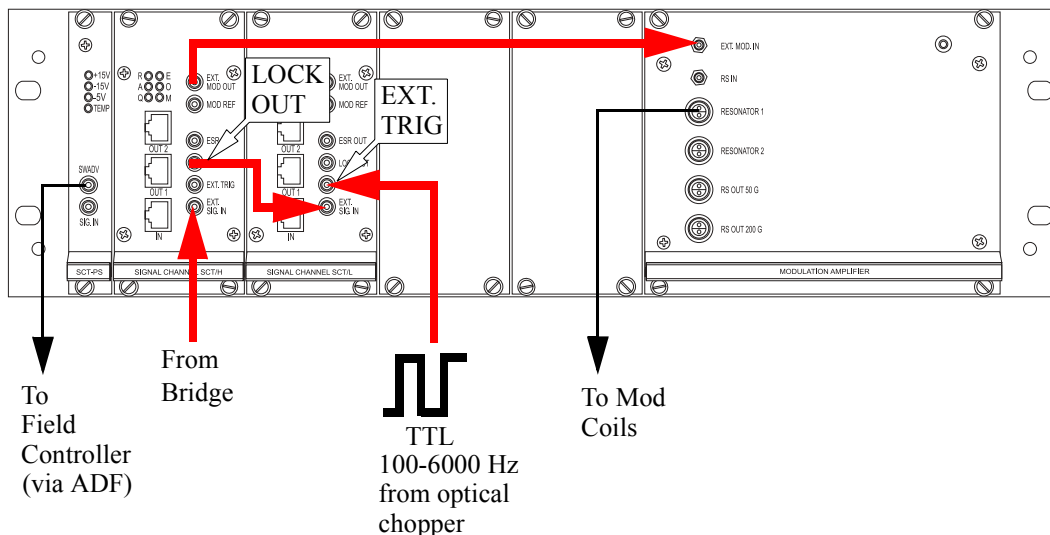

Figure 14-20 Configuration for double modulation (field and optical) experiments.
1. **Connect the signal cable to the SCT/H signal channel.** Disconnect the signal cable connected to Sig. In of the SCT-PS board. Connect it to EXT. SIG. IN of the high frequency signal channel (SCT/H). (See Figure 14-20.)
2. **Connect LOCK OUT to EXT. SIG. IN.** Connect LOCK OUT of the high frequency signal channel (SCT/H) to EXT. SIG. IN of the low frequency signal channel (SCT/L) with an external cable. (See Figure 14-20.)
3. **Connect EXT. MOD OUT to EXT MOD. IN.** Connect EXT. MOD OUT of the high frequency signal channel (SCT/H) to EXT. MOD. IN of the Modulation Amplifier with an external cable. (See Figure 14-20.)
4. **Provide a TTL reference to EXT. TRIG.** Connect the cable carrying the pulses from the light chopper or other low frequency modulation supplier to EXT. TRIG of the low frequency signal channel (SCT/L). (See Figure 14-20.)